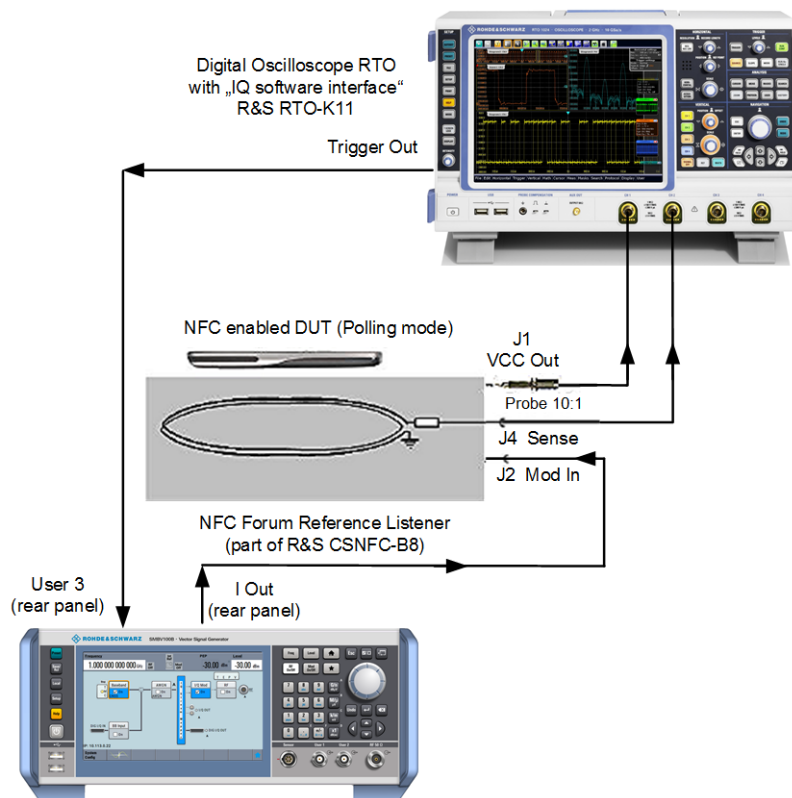

Figure 6-1: Test setup for an NFC mobile phone in polling mode (simplified schematic).
1. Connect the I Out connector of the R&S SMBV100B to the XJ2 (MOD IN) connector of the NFC Forum reference listener, see Figure 6-1.